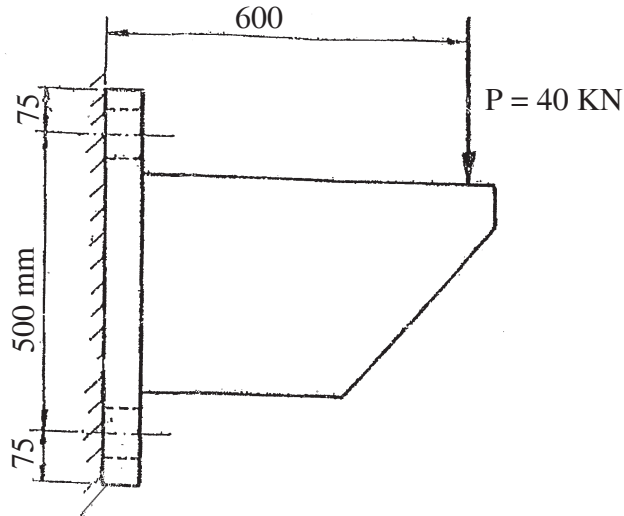

Fig. No. 3/No. 6 (b)
- A wall bracket as shown in Fig. No. 3 is fixed to a wall by means of four bolts. Find the size of the bolts. The safe stress in tension for the bolt may be assumed as 70 N/mm^2 .